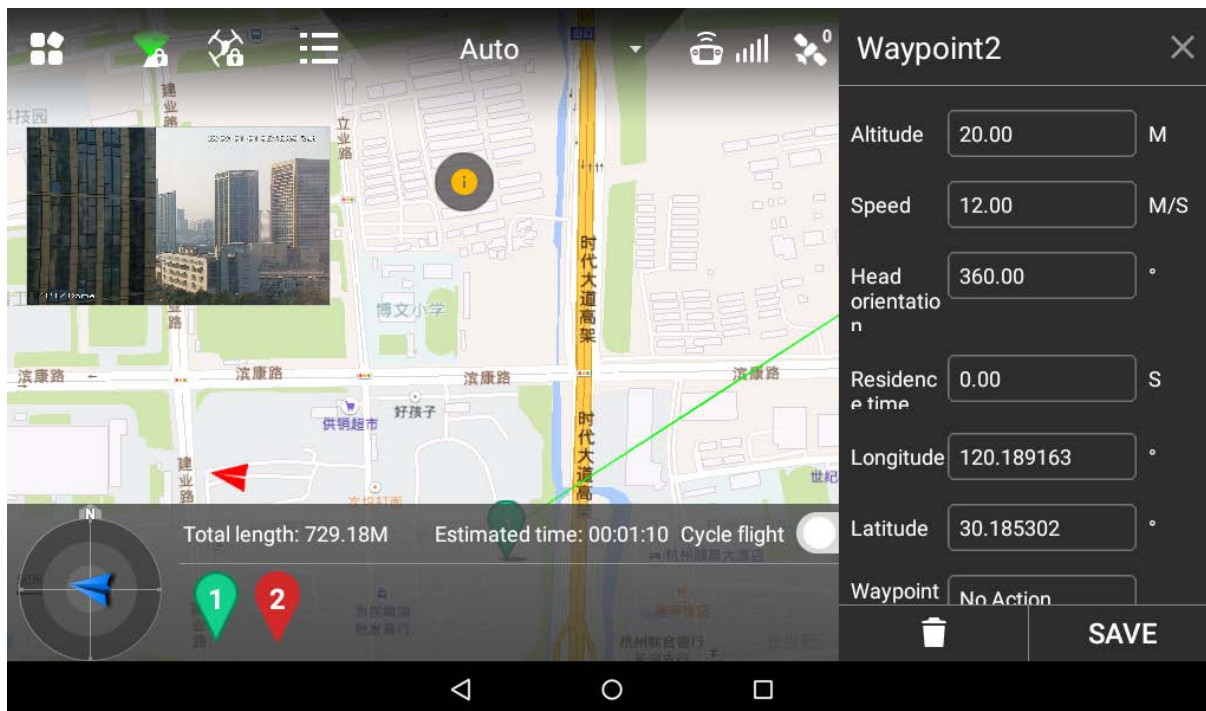

Figure 4-13
Step 3 Click a waypoint and it will become red. Waypoint setting interface will display on the right of the interface, as shown in Figure 4-13.